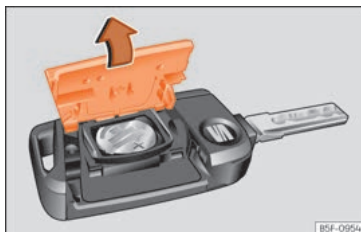

Fig. 145 Vehicle key: opening the battery compartment.
- Remove the cover from the back of the vehicle key » **Fig. 145** in the direction of the arrow » **ⓘ.**
- Fit the cover as shown » **Fig. 145**, pressing it onto the vehicle key casing in the opposite direction to that shown by the arrow until it clicks into place.